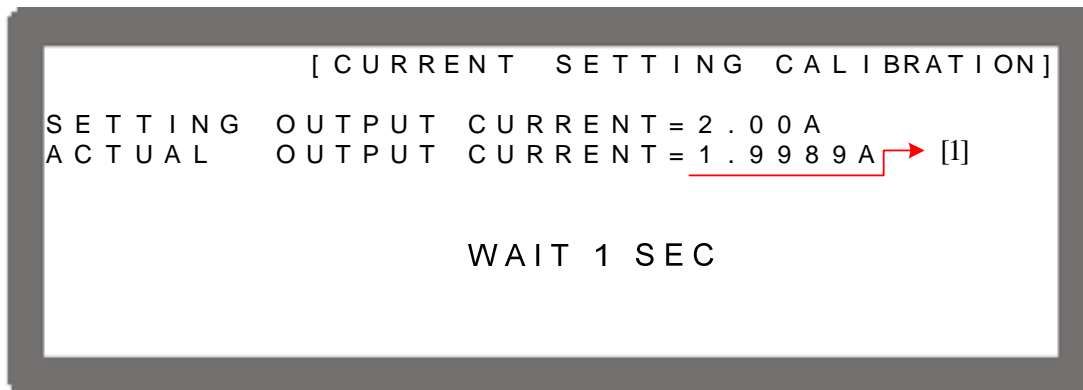

Figure 3-108
- (4) The output of the DC Power Supply will be off before the user presses ENTER. Once ENTER is pressed, a message will pop up to remind users to connect to proper current shunt range. Set current shunt whose rating is closest to, but still covers 2A. For Prodigit 7530, use 2A shunt directly.
- (5) Press ENTER, the system will set the output current to 2.00A automatically and a second reading will appear on the screen. Once the reading is done, the cursor will stop at position [1] as Figure 3-108 shows. Input the current (4 digits after decimal point) read by Current Shunt (DVM) and press “” to confirm.